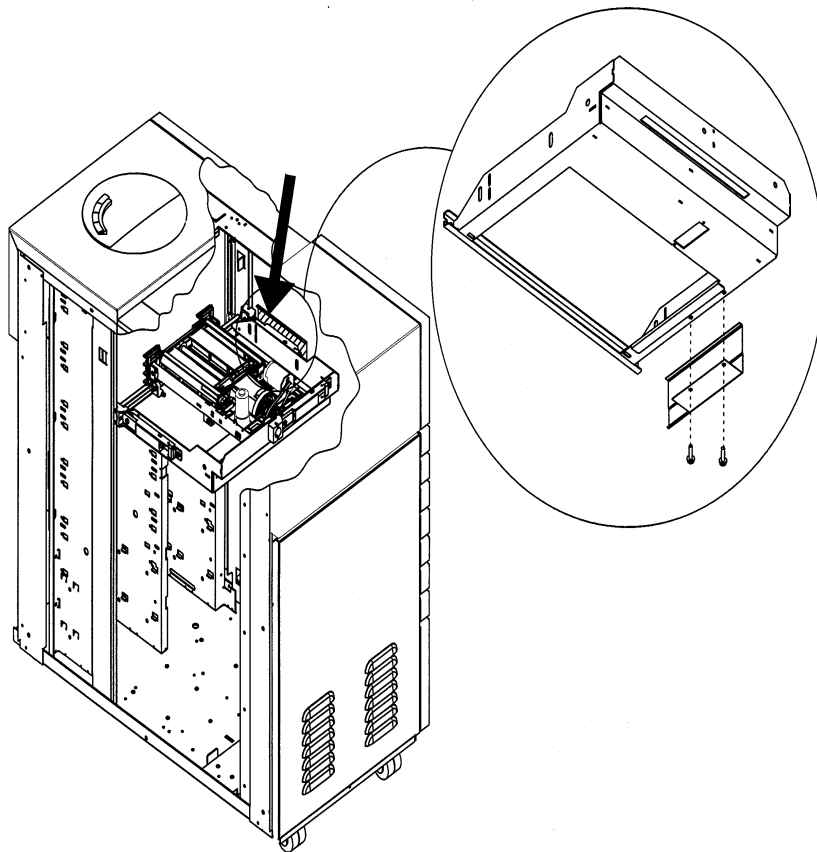

Figure 69: The Visual Locator Bracket
5. Remove the “visual locator” bracket on the (front) side of the picker translate frame (see Figure 69).